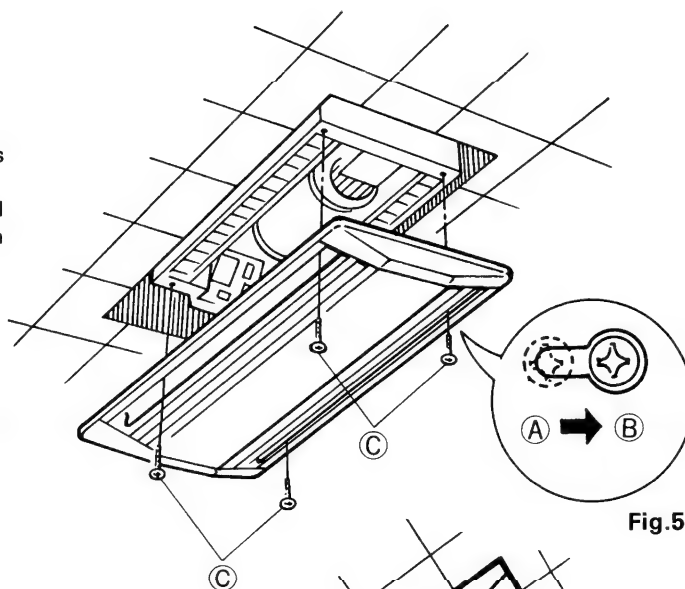

Fig.5
- ① Loosen the four screws (C) (black color).
- ② The ceiling panel screw heads have a special shape as shown in the figure.
Slide the entire ceiling panel to the side. The ceiling panel can be removed when the screw heads have moved from (A) to (B). Fig 5.